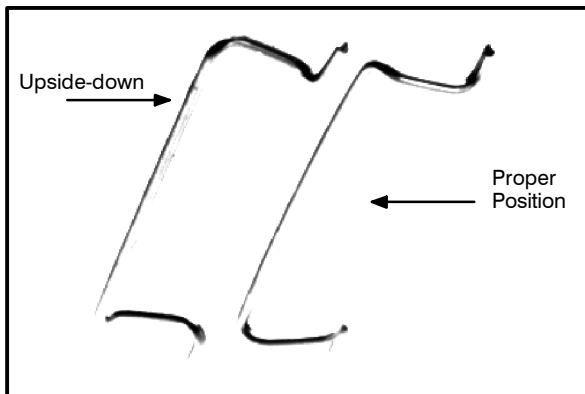
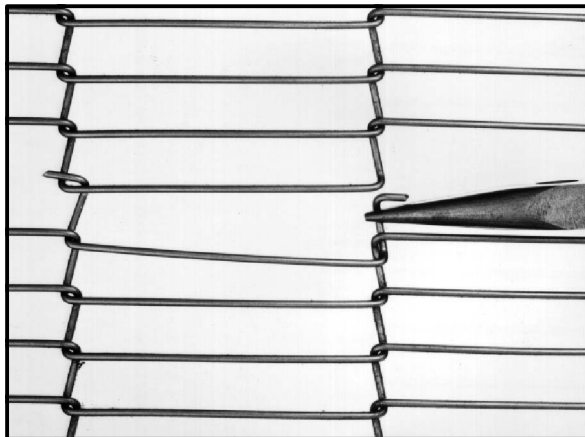

Figure 12
Figure 13
4. Install inner master links. See Figure 12 and Figure 13.